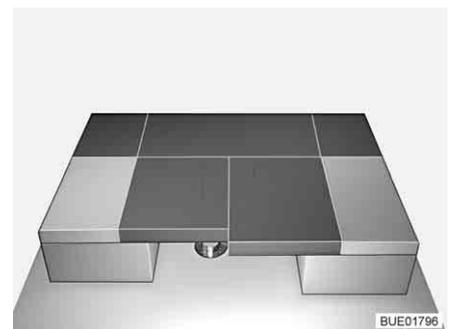

Fig. 105 After conversion
- Press the two seat cushions between the back cushions (see Fig. 105).